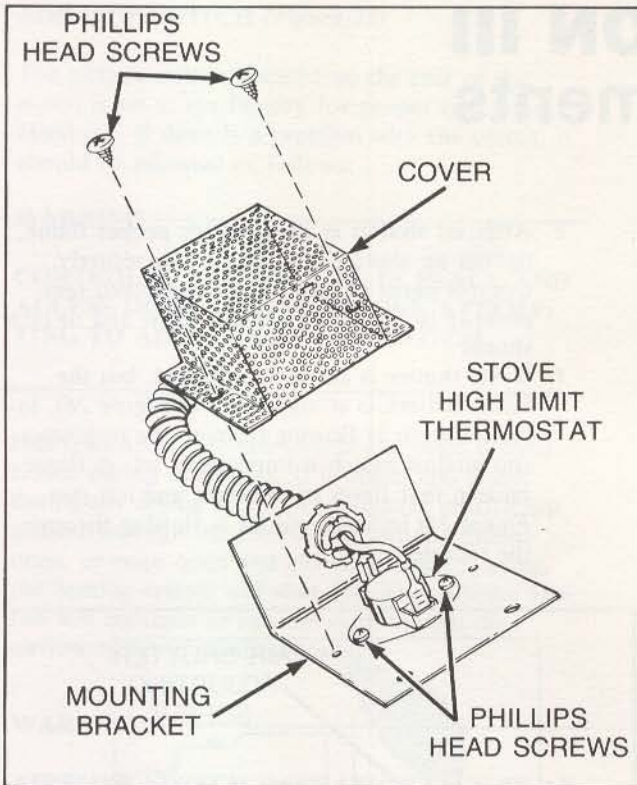

Figure 24
- g. Remove two Phillips head screws holding cover to mounting bracket, *Figure 24*.
- h. Disconnect wires from thermostat, *Figure 24*.
- i. Remove two Phillips head screws holding thermostat to mounting bracket, *Figure 24*.